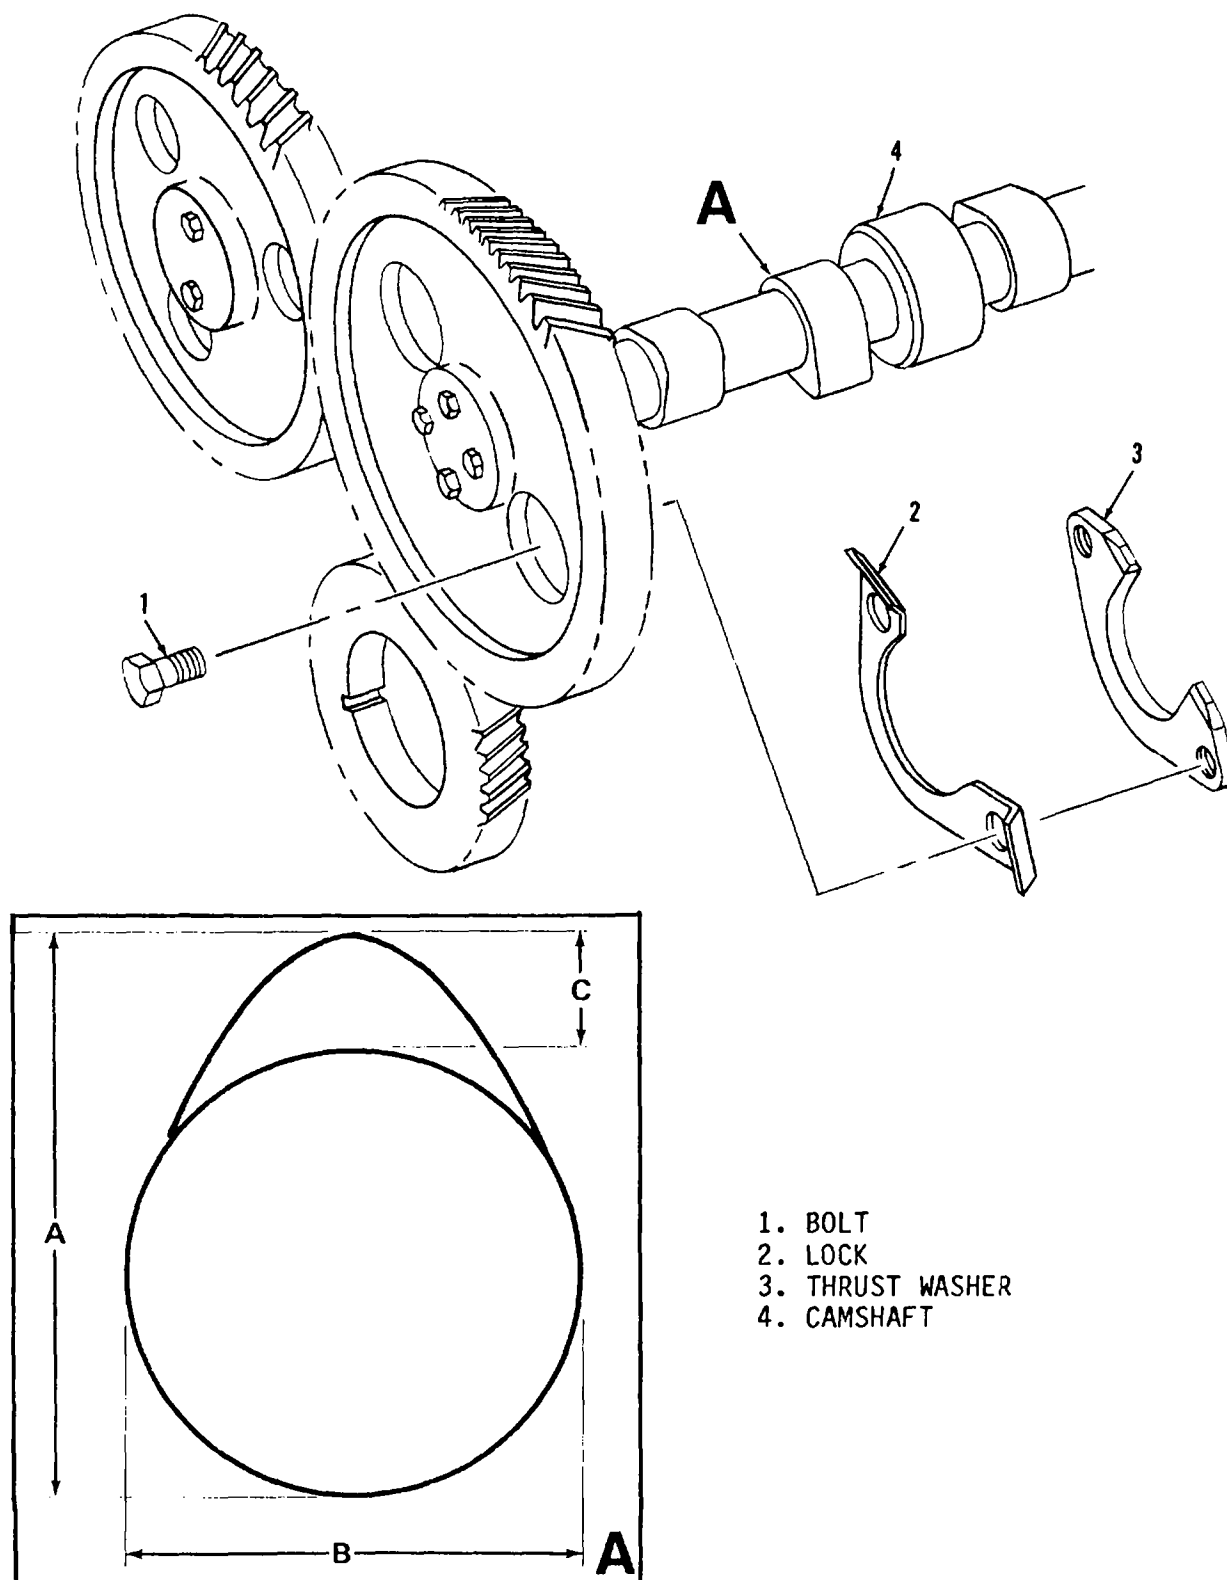
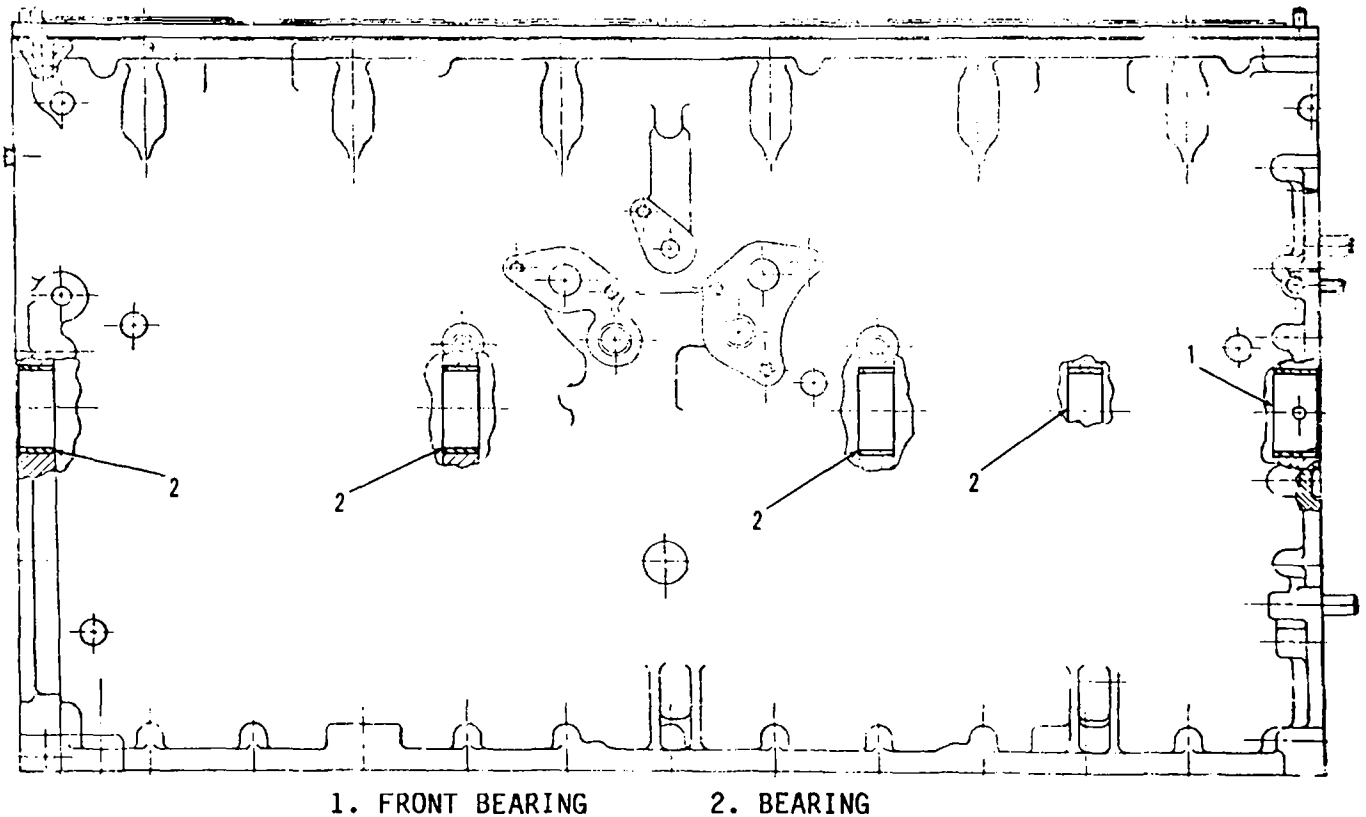

Figure 11-52. Camshaft, Installation and Removal
Figure 11-53. Camshaft Bearings, Removal and Installation
- g. Remove bolt (1, figure 11-52), lock (2), and camshaft thrust washer (3).
a. Using a micrometer and feeler gage, refer to table 1-3 and check camshaft for wear as follows (see figure 11-52):
- (1) Check width of groove in camshaft for thrust washer.
- (2) Check thickness of thrust washer.
- (3) Check camshaft end play.
- (4) Check diameter of camshaft bearing surface (journal).
- (5) Check height (A) of camshaft cam lobes (see detail A) by measuring diameter of base circle (B) and adding lobe lift (C).
c. Using a micrometer and feeler gage, refer to table 1-3 and check the camshaft bearings (see figure 11-53) as follows:
c. Remove camshaft bearings (1 and 2, figure 11-53) using camshaft bearing installation and removal kit (Special Tool 8S2241). Remove front bearing (1) first.
a. Use a tool to install camshaft bearings (1 and 2, figure 11-53) using camshaft bearing installation and removal kit (Special Tool 8S2241). Front and rear bearings must be recessed 0.06 +/-0.02 inches (1.5 +/-0.5 mm) from their respective faces of the cylinder block. Install all bearings so that oil
c. Install camshaft (4, figure 11-52) so that timing marks on camshaft gear, crankshaft gear, fuel injection pump idler gear, and fuel injection pump drive gear are all in alignment.
d. Install camshaft thrust washer (3) and lock (2). Secure with bolts (1).